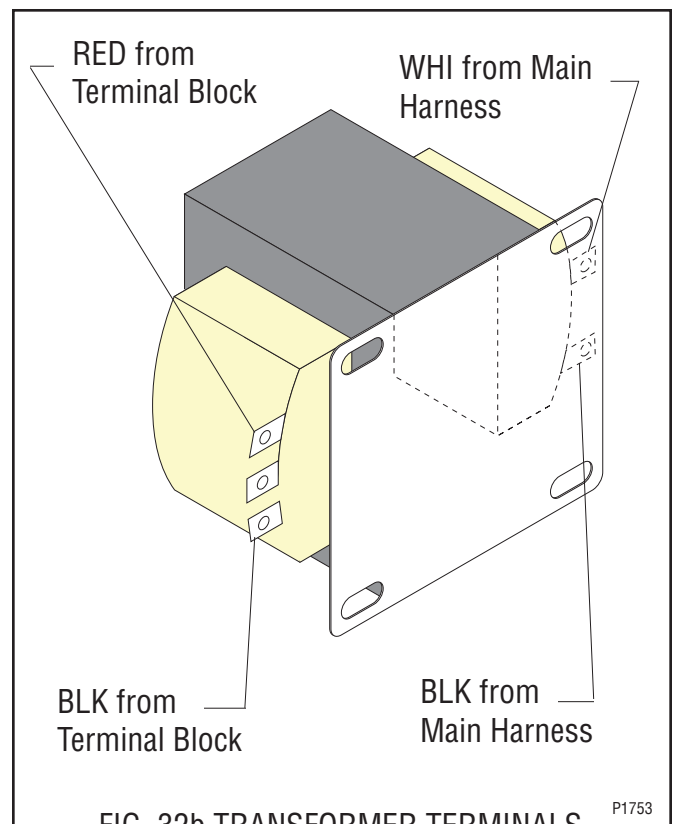

FIG. 32b TRANSFORMER TERMINALS
5. Refer to Fig. 32b and reconnect the wires.